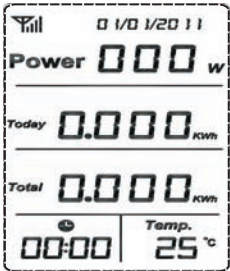
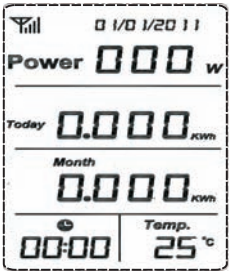
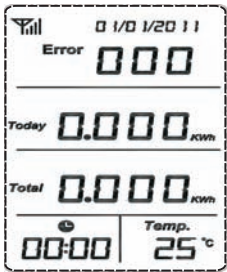

Figure 17
Figure 20
Figure 26
The second line indicates the generated energy, generation revenue and CO2 emissions on the day. The three data are displayed once every 5s in cycle. The sequence of display in cycle is generated energy, generation revenue and then CO2 emissions, as shown in Figure 17 to 19.
There are two modes in the third line, one showing the generated energy, generation revenue and CO2 emissions in the month and the other showing the total generated energy, total generation revenue and total CO2 emissions. Two modes are divided into six interfaces and each interface is displayed after every 5s in cycle, as shown in Figure 17 to 22. The means of display in cycle is Today-Total-Today-Month. Press "OK" for a short while in the default interface, you will enter the enquiry of daily, monthly and total data. When entering the enquiry interface, the historical daily and total data will be displayed, as shown in Figure 17. Then, press "Down" for a short while for enquiry of generated energy, generation revenue and CO2 emissions from Today to Total in sequence, as shown in Figure 17 to 19, and for enquiry of generated energy, generation revenue and CO2 emissions from Today to Month in sequence, as shown in Figure 20 to 22. Or press "Up" for a short whole, and you will see the enquiry results in the opposite direction. The default interface will appear by pressing "OK" for a short while in any interface of enquiry or when there is no operation of enquiry at all in 30s.
3. There are two modes in the third line. The first is to show the actual accumulated generated energy, generation revenue and CO2 emissions by all photovoltaic inverters in the month, as shown in Figure 20 to 22; the second is to show the actual accumulated electric energy, generation revenue and CO2 emissions by all photovoltaic inverters. The two modes are divided into six interfaces and each interface is displayed once every 5s and in cycle, as shown in Figure 17 to 22. The sequence of cycle is from Total to Month.
**Notes:** When the monitor receives error information of photovoltaic inverters, the first line will display "Error" and its relevant wrong code (supposing 000). Meanwhile, the buzzer will alarm twice every five minutes (if the buzzer is set opened), as shown in Figure 26 and the LEC lamp will flash once every second. The display results of the second and third lines must be corresponding to each other. It means when the second line displays generated energy on the day, the third line must display the total generated energy or generated energy of the month at the same time. The data must be displayed correspondingly and in cycle and the means of display in cycle is Today-Total and Today-Month, as shown in Figure 17 to 22.